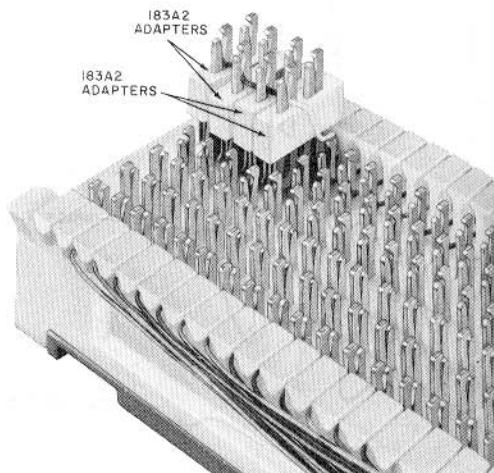

Fig. 14—Typical Installation of 183A2 Adapters on 66B-Type Connecting Block
**4.06** No special tools are required to install or remove either adapter. Figure 14 shows the 183A2 adapter installed. Install as follows: